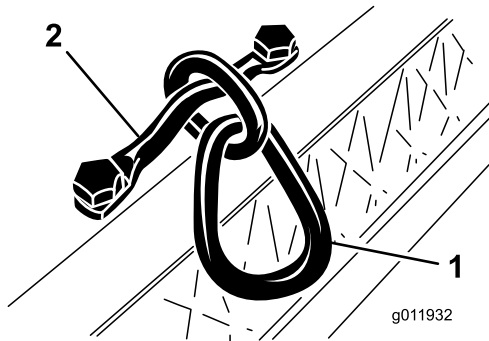

Figure 5
Install chain link to the top of the cutting unit with the mounting bracket and (2) capscrews. Torque the capscrews to 25-30 ft-lbs. (34-40 N-m). (Figure 5).